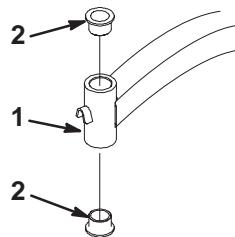

Figure 76
4. Insert a pin punch into the mounting tube and carefully drive out the bushings (Fig. 76). Clean the inside of the mounting tube.